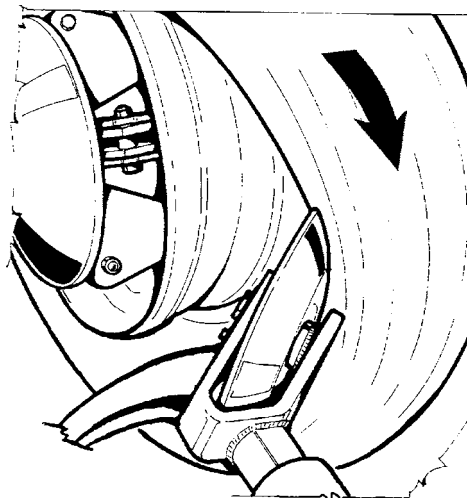

Fig.39
6. When loosening the inner bead be sure not to damage the valve stem (fig.39).